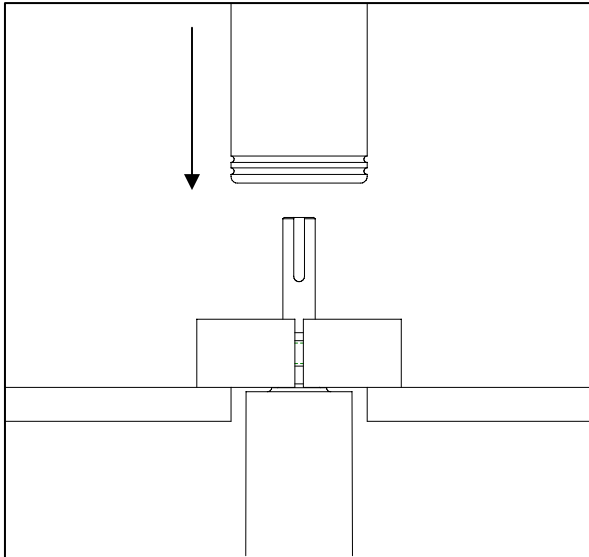

Figure 4
e. Next, place in a press and press the bearings off the pulley. Use extreme caution that drive pulley does not get damaged in any way (Figure 4).